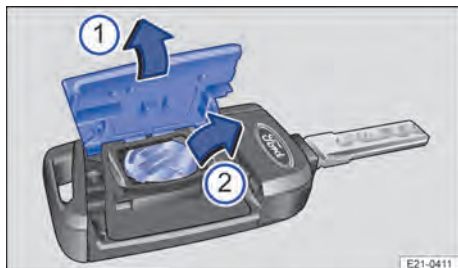

Fig. 49 Vehicle key: changing the button cell.
There are two options for changing the button cell in the vehicle key, depending on the equipment: → Fig. 49 and → Fig. 50.
2. Open the cover upwards → Fig. 49 ①.
3. Remove the button cell from the battery compartment ②.
4. Press the new button cell of the same specification into the battery compartment → ①.